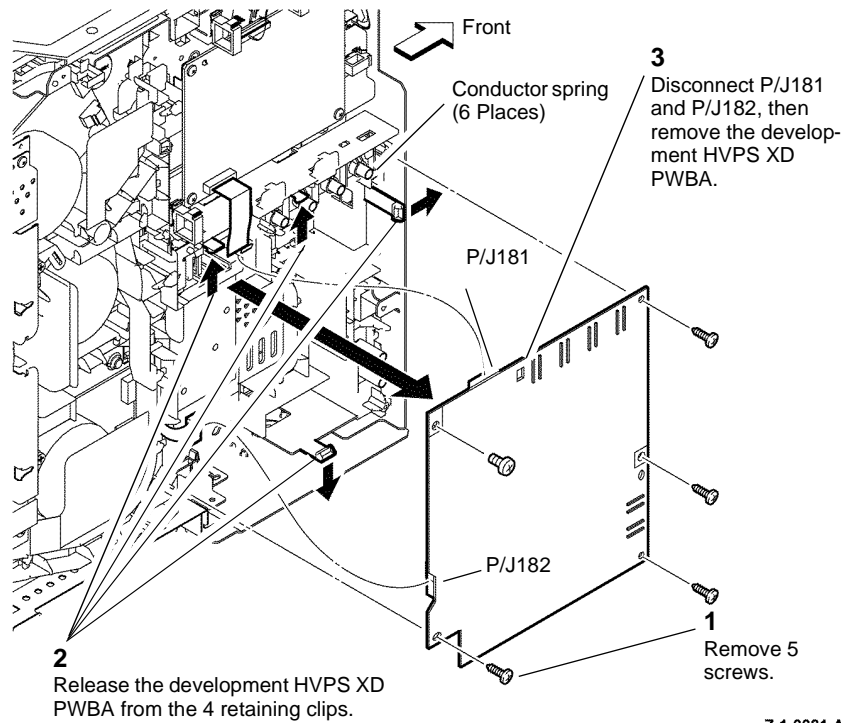

Figure 2 Development HVPS XD PWBA
2. Remove the development HVPS XD PWBA, Figure 2.